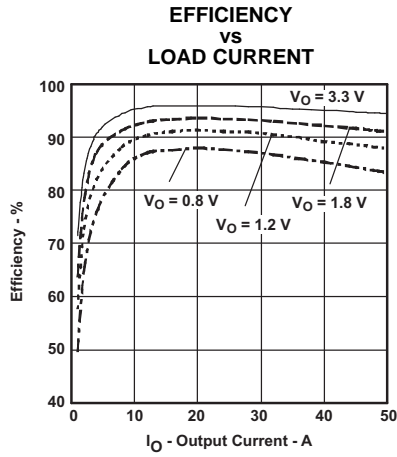
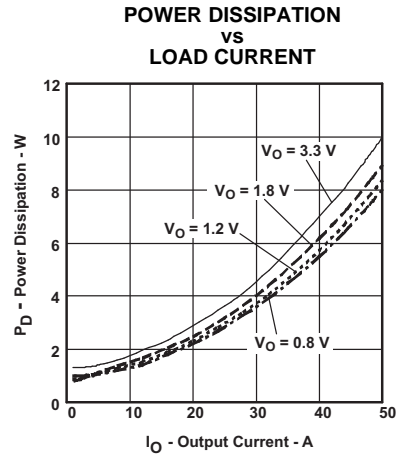

Figure 6.
Figure 7.
(3) The electrical characteristic data has been developed from actual products tested at 25°C. This data is considered typical for the converter. Applies to Figure 6 , and Figure 7 .